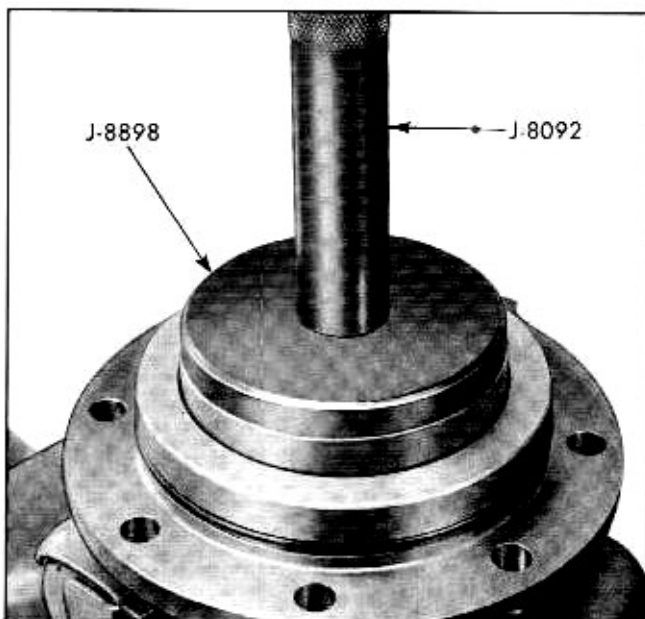

Fig. 4-41 Installing Rear Pinion Bearing Outer Race
1. Install rear pinion bearing outer race using J-8898 with J-8092 handle (Fig. 4-41).
4. Install rear pinion bearing outer race using tool J-8898 with J-8092 handle (Fig. 4-41).